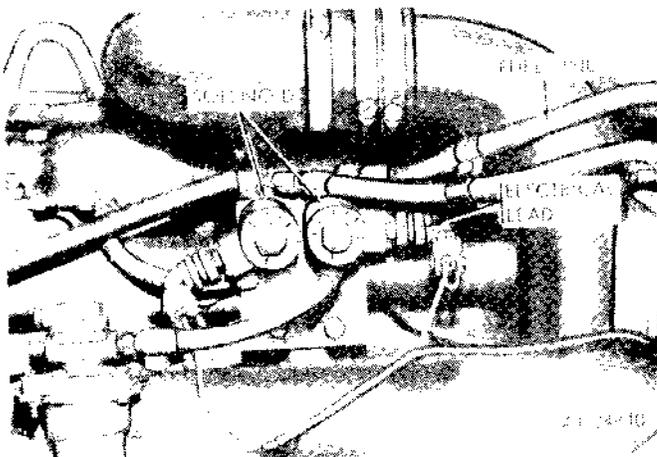

Figure 2-112. Disconnecting electrical leads and fuel lines at two solenoids—diesel models.
- (1) Disconnect the two electrical leads (one from each solenoid) as shown in figure 2-112.
- (2) Disconnect the four fuel lines from the two solenoids (fig. 2-112).
- (4) Connect the fuel lines (fig. 2-112) to the solenoids.
- (5) Connect the two electrical leads to the solenoids (fig. 2-112).